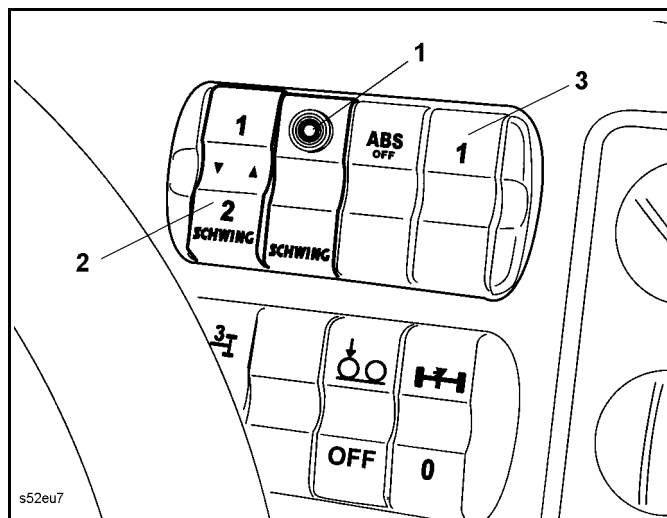
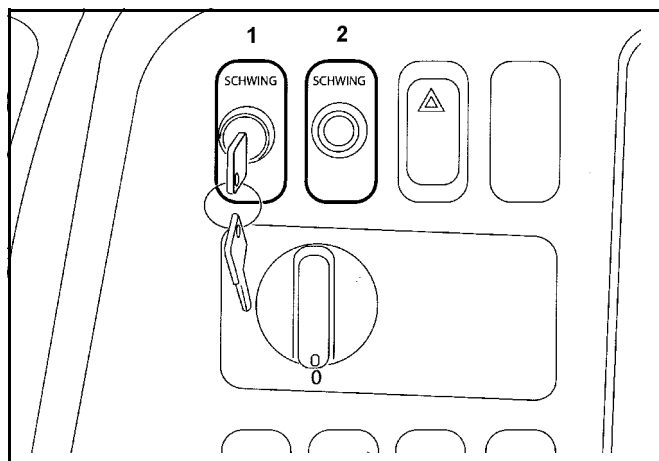

Fig. 111 Cab toggle switch
Fig. 112 Cab key-operated switch
Toggle switch (2) (**Fig. 111**) or key-operated switch (1) (**Fig. 112**).
- Switch on the outrigger lighting, if necessary, e.g. by using the toggle switch (3) (**Fig. 111**).